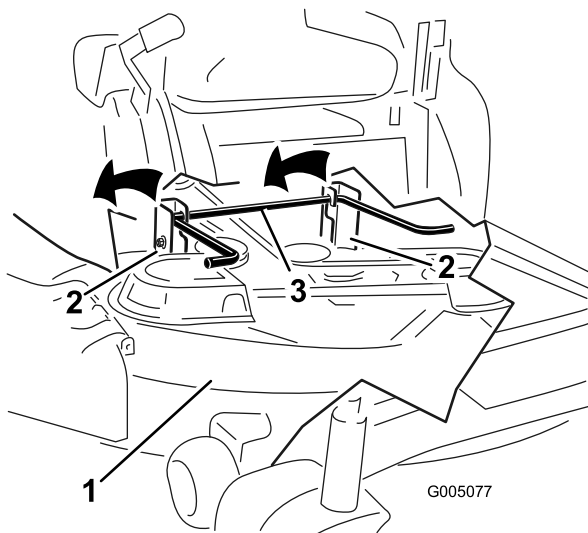

Figure 59
6. Lift the mower deck and hanger brackets clear of the rear lift rod and lower the mower carefully to the ground (Figure 59).